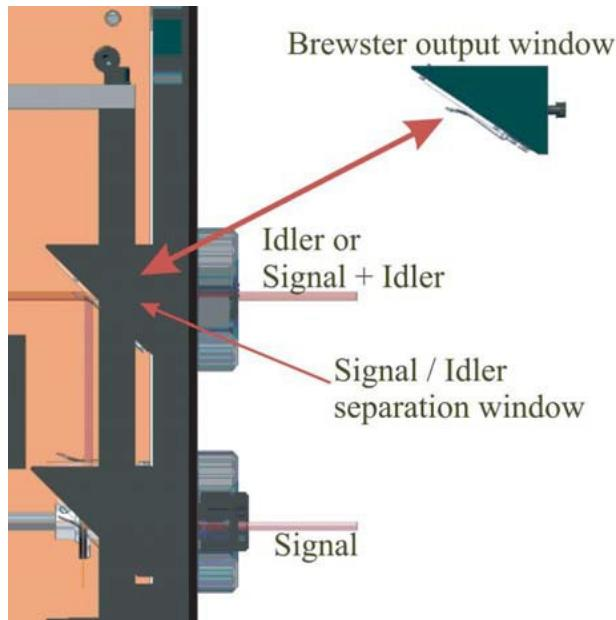

Figure 3.6.: Layout with signal/idler separation window installed and Brewster output window for signal/idler collinear output
3. Use a hex key to take out the two screws while holding the output window. Exchange it with the Brewster window for non-separated signal and idler or the 45° long pass filter for signal/idler separation, see figure 3.6.